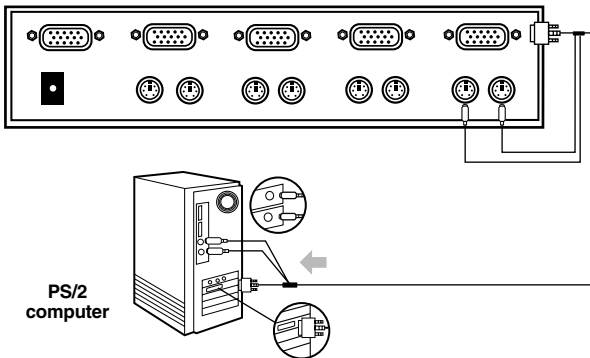

Figure 3-4. PS/2 computer connections.
2. Connect the other end of the cable to the corresponding female VGA port on the back of the computer. Connect the two 6-pin mini-DIN connectors to the back of the PC. See Figure 3-4.